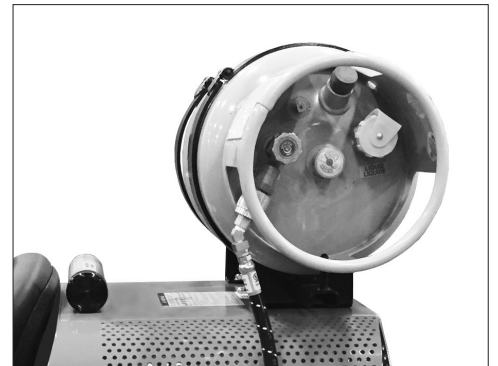

FIG. 13
2. Release tank bracket so that it swings back. It does not need to be removed completely (Figures 13 and 13.1).
3. Disconnect propane hose (Figures 13 and 13.1).